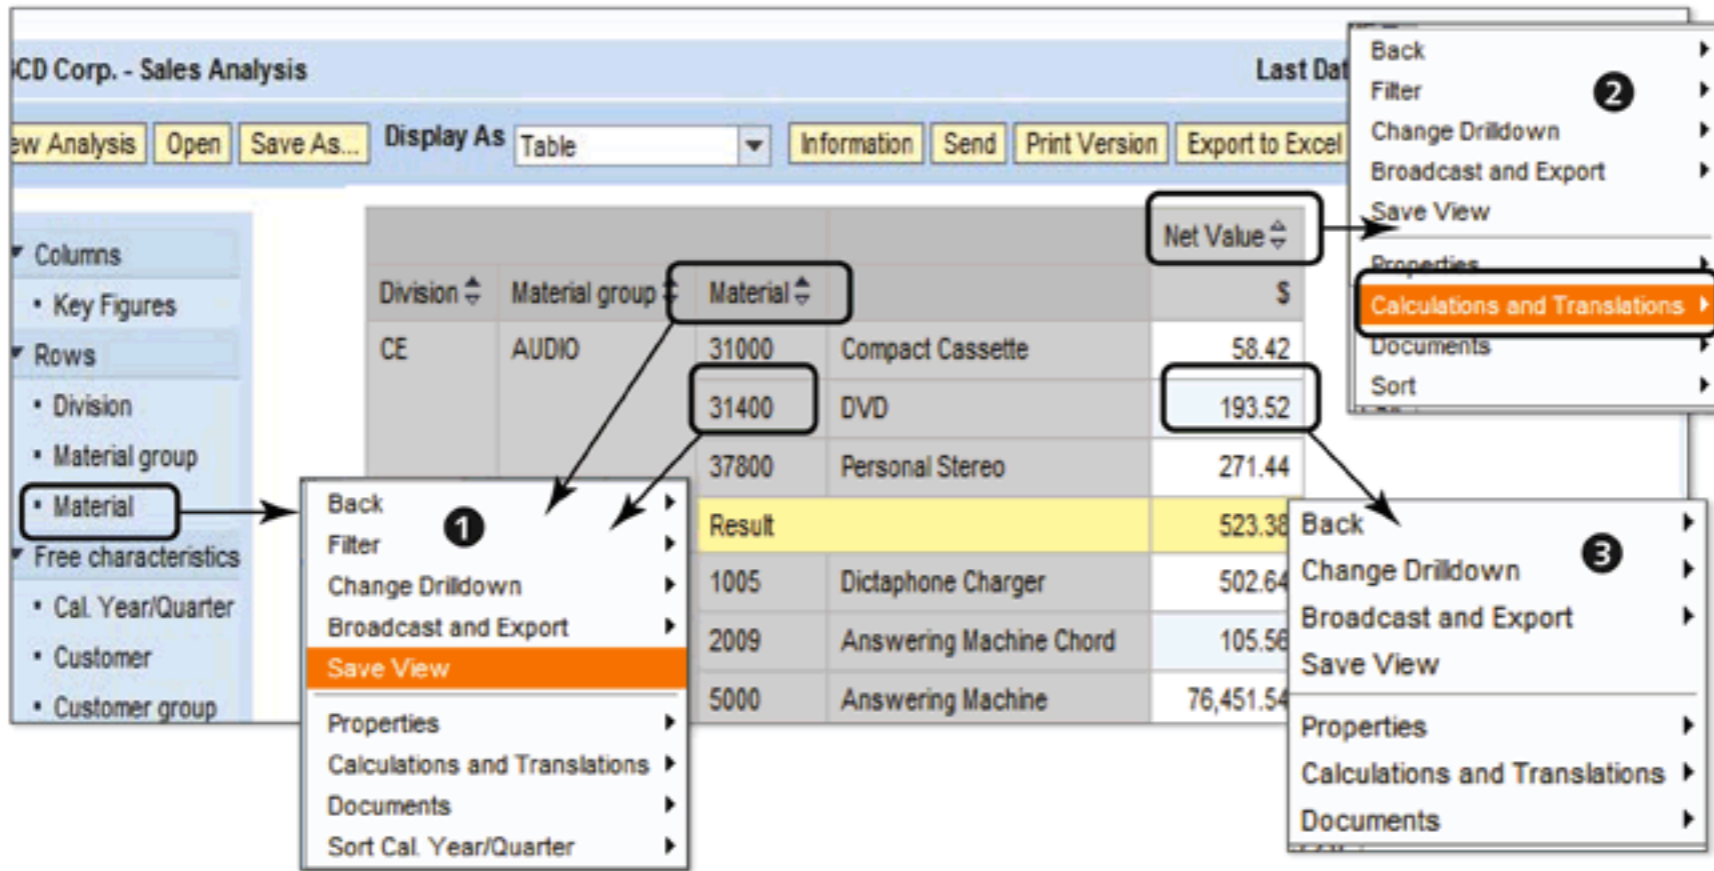

Figure 10.48 BEx Web Analyzer Context Menu Functions
Using BEx Web Analyzer, you can navigate through data (using drilldown, filters, changing the layout, calculating key figures in a different way, etc.) to analyze it from various perspectives. These navigations can be performed via drag and drop or via context menu options. Similar to BEx Analyzer, context menu functions are available for query elements in the navigation pane (❶ of Figure 10.48), characteristic column headers (❶), specific characteristic values (❶), key figure headers (❷), and specific key figure values (❸). Drag and drop can also be used to navigate through data, which makes analysis very easy (minimizing the number of mouse clicks) and very interactive.